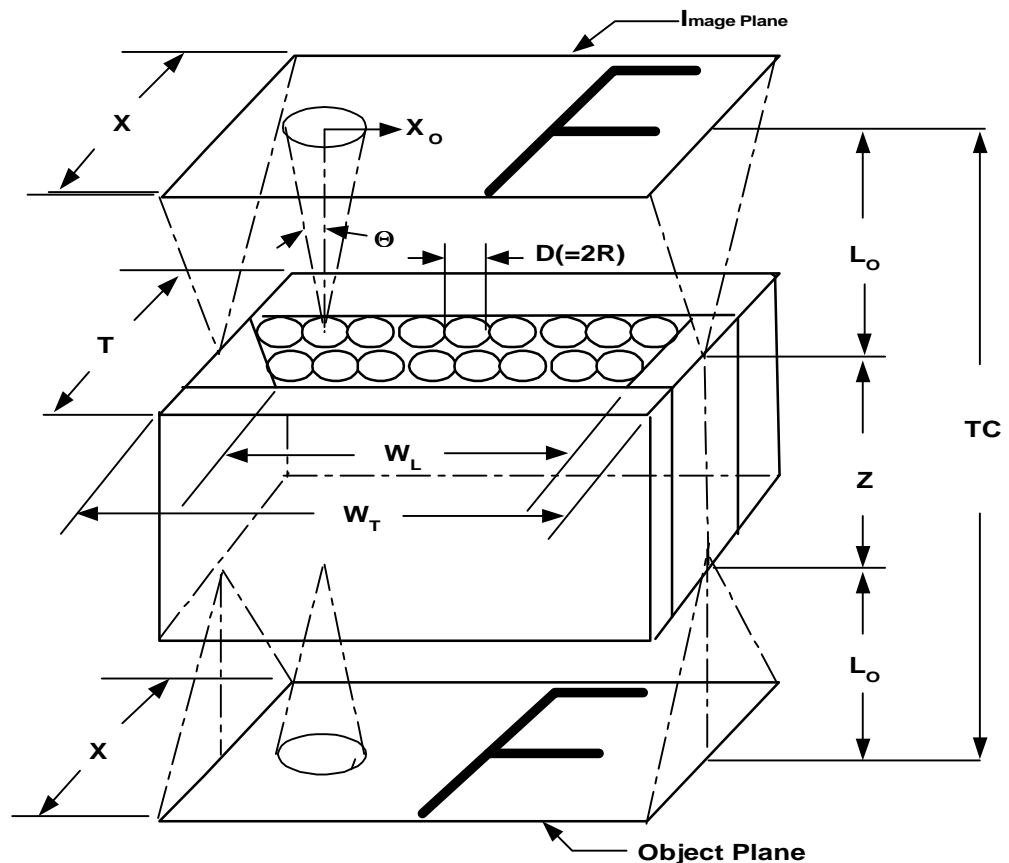

Figure 1: SLA Dimensional Parameters
Figure 1 illustrates the dimensional parameters used to select and specify an array. Notice that the heights, X , of the object and image planes are identical. This is because the SLA is a one-to-one image transfer device and, as such, it operates with unit magnification. The maximum height of this field that the SLA will "see" is determined by the numerical aperture of the individual lenslets and by the number of rows of lenslets in the array. For line scanning applications, the SLA's field of view need not be large (perhaps 1 millimeter). For applications other than line scanning (eg., copiers, printers, etc.), it is necessary to determine the maximum height of the object field for your application, remembering that shorter field heights will generally result in greater depth of focus and higher resolution. The maximum object height currently viewable by a standard SLA is 7.8mm (SLA type 12B-495).
Another aspect of the SLA's one-to-one imaging ability is conjugate symmetry. Referring again to Figure 1, the working distance L_0 is shown to be identical on each side of the lens (object distance = image distance). By adding the working distances to the lenslet length (Z) we obtain the Total Conjugate, or "TC", of the optical system ($TC=Z+2L_0$). The TC represents the total separation of the object and image planes and is a key identifier in the specification of an SLA. A wide range of TCs are available, from 9.1mm (SLA-20D) to 74mm (SLA-06A), with different TCs being suitable for different applications. In a contact image sensor (CIS), for example, the SLA-20D is extremely convenient because it allows the SLA and the sensor array to be packaged together in a very small unit. For other types of imaging applications, longer TCs may be needed due to mechanical constraints or optical requirements. As with the field height specification, there are trade-offs between TC and depth of focus. The positioning of a "short-TC" lens may be more critical than for a lens with a longer total conjugate.
In most SLA products there is a small section at each end of the SLA which contains no lenslets. The total SLA width W_T may, therefore, be larger than the width of the active lens portion W_L . See Figure 1 for an illustration.